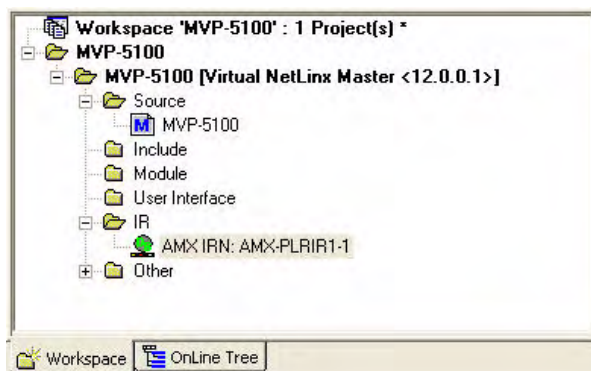

FIG. 86 NetLinx Studio Workspace pane with IR file
5. The selected IR file now appears in the NetLinx Studio Workspace (FIG. 86).